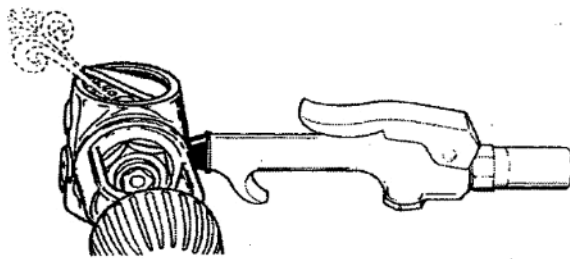

Fig. 1
- Using a ring puller, assembly tool, or other non-hard material tool, carefully pry up on the washer (18) and remove it. Then remove the diaphragm (17). Be careful not to damage the threads and inner walls of the housing, or the diaphragm and washer. A more convenient way to remove the diaphragm is to apply a jet of air at a pressure of about 8 - 10 bar into the port opening of the SD port (see Fig. 1).
- Remove the pushrod (16) and rod (15).
- Using an 8 mm hex wrench, unscrew the end cap (1) together with the O-ring (2). Then remove the spring (3), balance chamber (4), spring (7), and plate (8) of the air valve.